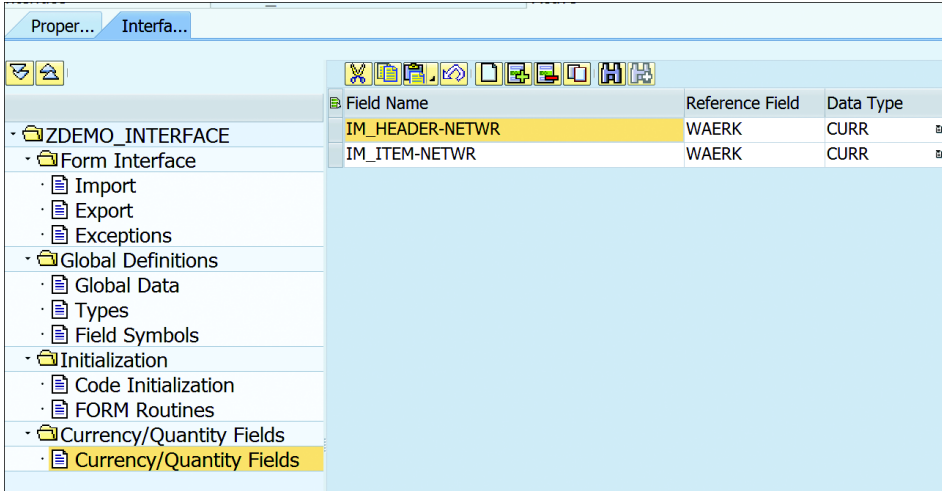

Figure 18.71 Currency/Quantity Fields I
8. The CURRENCY/QUANTITY FIELDS section (see Figure 18.71) allows you to define reference fields for currency and quantity fields. The reference fields allow the form to apply output formatting for the fields. For example, it may show decimals when printing the currency in US dollars, but when printing Japanese Yen, it might suppress the decimals. If the reference fields exist in the same structure for the parameters or global definitions, the program will use that structure automatically.